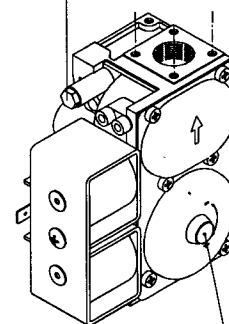

Fig. 20
- 6.6.3** Locate the main burner pressure test point (Fig. 20) and remove the screw in an anti-clockwise direction. Attach a suitable pressure gauge. Turn on the boiler for central heating.
If the pressure is wrong or if it is required lower it can be adjusted. Identify the regulating screw on the side of the gas valve (Fig.20) & remove the dust cap, turning the regulating screw clockwise will increase the pressure or turning the screw anti-clockwise will decrease the gas pressure. Once this pressure has been fixed it should be indelibly recorded on the label provided and stick it next to the data badge. This is to ensure that the burner can be reset when any service operation involves alteration of burner settings.